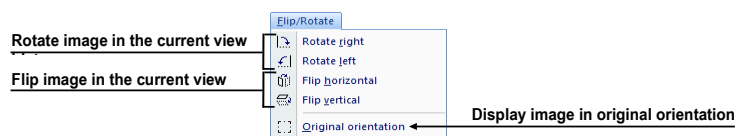

Figure 44 – Flip/ Rotate menu
- **Flip/Rotate** – flipping and rotating the image in the current view (see Figure 44).